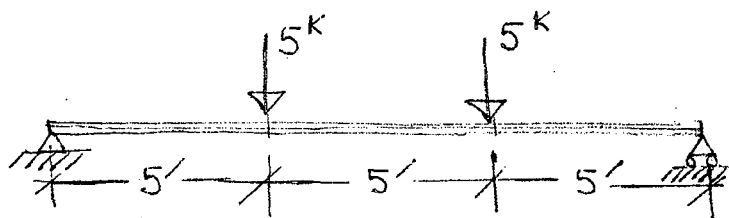

Fig. 6
7. Determine the deflection and rotation at midspan of the beam of Fig. 6. $E = 10 \times 10^6$ psi, $I = 1500$ in⁴. (14)